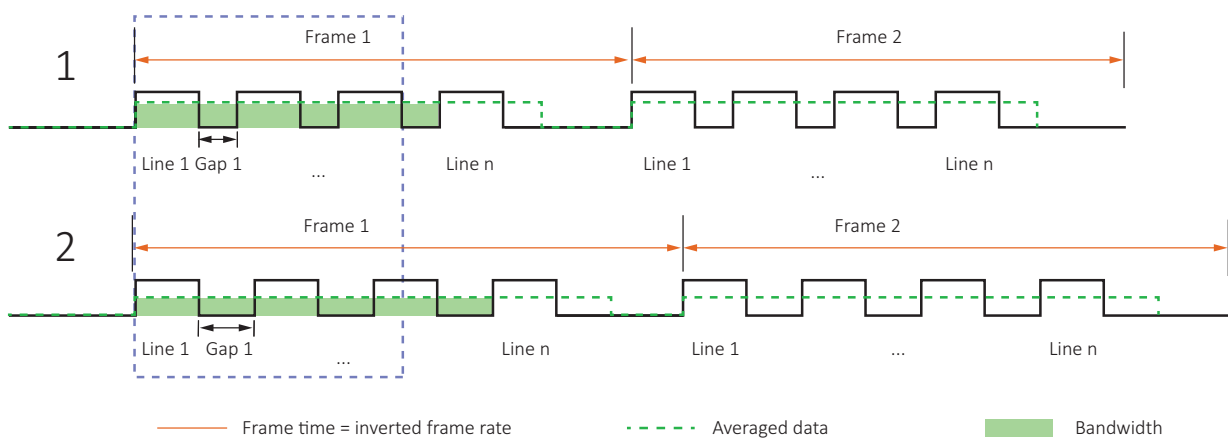

Figure 100: Sensor data output and camera data output
Figure 100 shows the bandwidth for a higher (1) and a lower (2) value for `DeviceLinkThroughputLimit` with Alvim G1.
- When high-resolution Alvium G1 cameras are operated at higher frame rates, corrupted frames can occur. This is shown schematically in Figure 100.